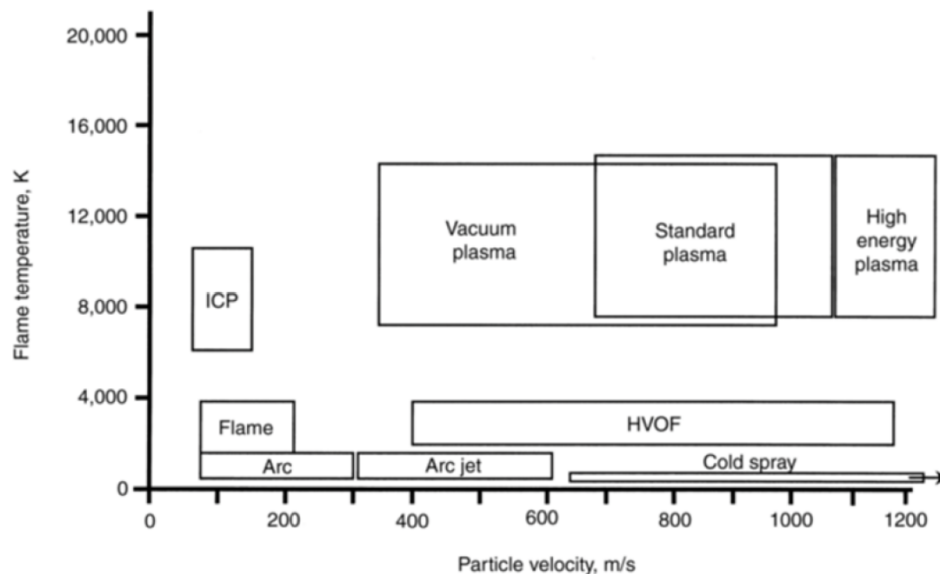

Fig. 5.15: The temperature-velocity distribution envelope of thermal spray processes. HVOF (high velocity oxyfuel); ICP (induction coupled plasma).
- **(Fig. 5.15 & Table 5.2):** Temperature-velocity map and parameters for different thermal spray processes.